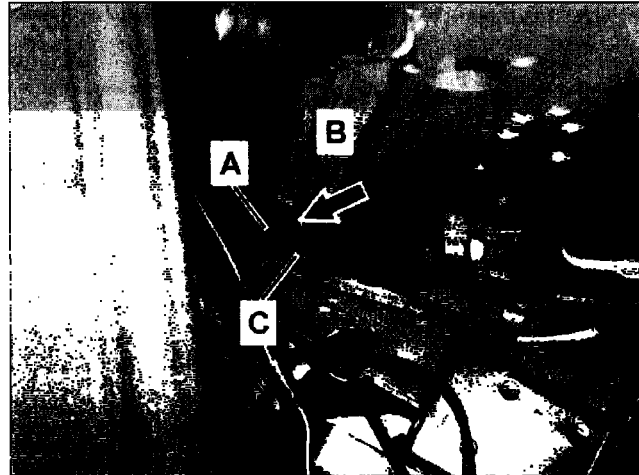

Figure 21
21. Secure SBC wiring harness (A, Figure 21) to SBC hydraulic unit bracket (B) with cable tie (arrow). Tighten cable tie (arrow) using Hellermann MK9 cable tie pliers (Special Tool W 352 589 02 37 00); use **setting 3** on cable tie pliers.